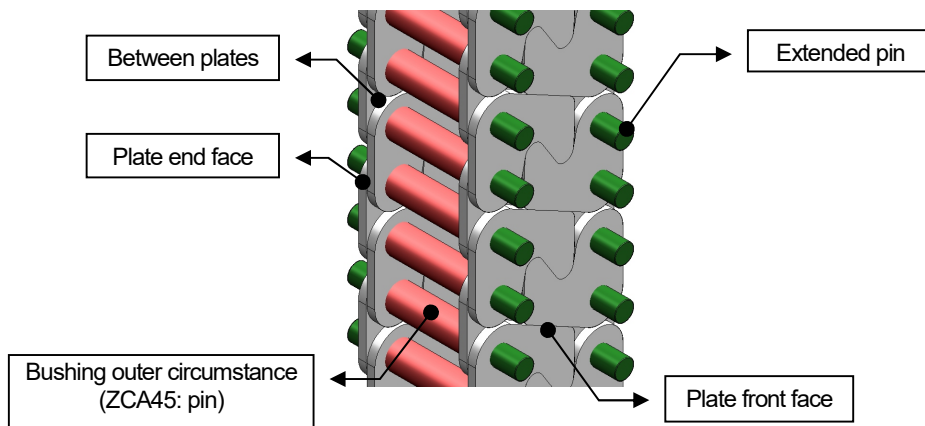

Fig. 6 ZIP CHAIN Inspection Points
- Check for wear on the ZIP CHAIN (Fig. 6)
① Check for the oxidized wear dust (rust color) on the following parts
② Ensure that bushings and extended pins are not cracked or broken